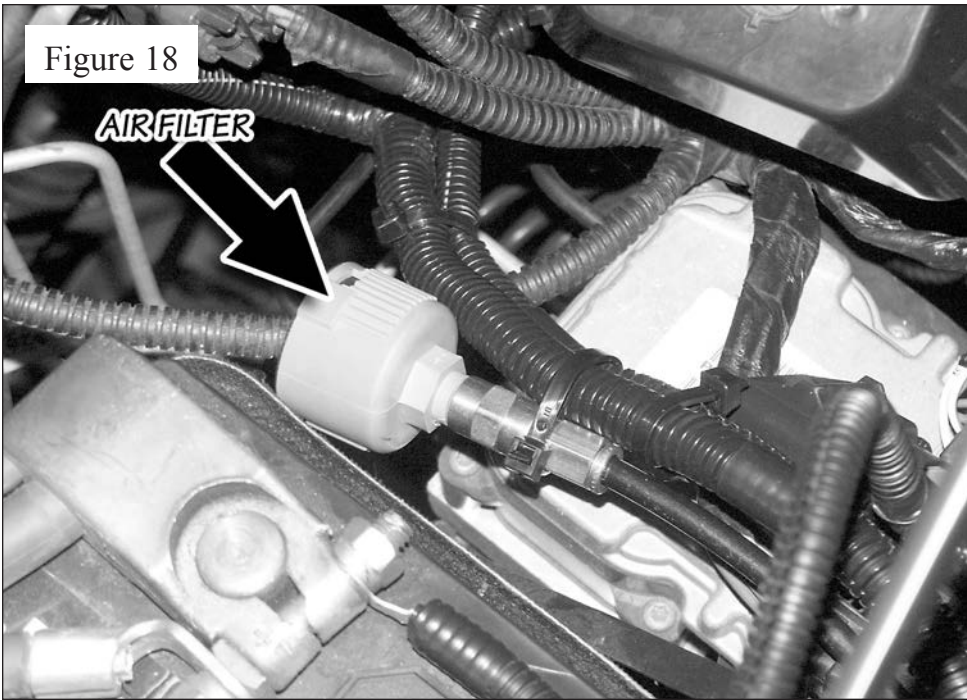

Figure 18
**61.** Route the 4-ft air hose toward the positive battery terminal following the brake wire harness. Use cable tie to secure the air hose along the way. The outlet of the air hose should be located at the positive battery terminal side. Install the air filter assembly to the air hose and tie it with a cable tie as shown in **Figure 18**.